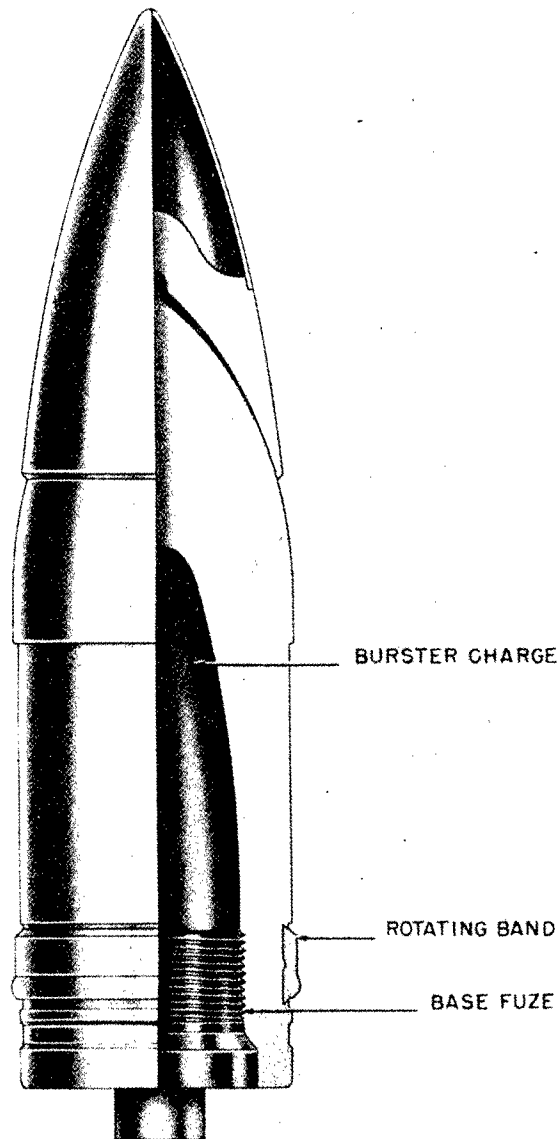

Figure 383—A. P. C. Tank Gun Projectile, 75-mm Pzgr. Patr. (KwK. 38)
**GERMAN NOMENCLATURE:** Pzgr. Patr. (KwK 38). Panzergranate Patrone Kampfwagen Kanone. (See fig. 383.)